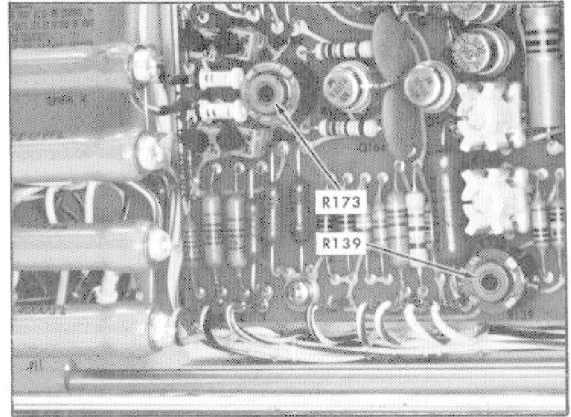

Fig. 6-6. Location of R173, (1 V Gain).
- e. Adjust R173 (1 mV Gain, Fig. 6-6) for a display amplitude of exactly 5 cm.